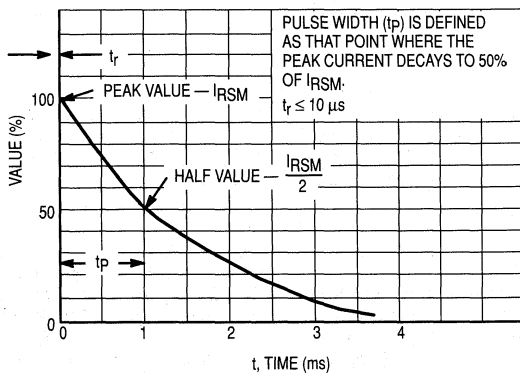
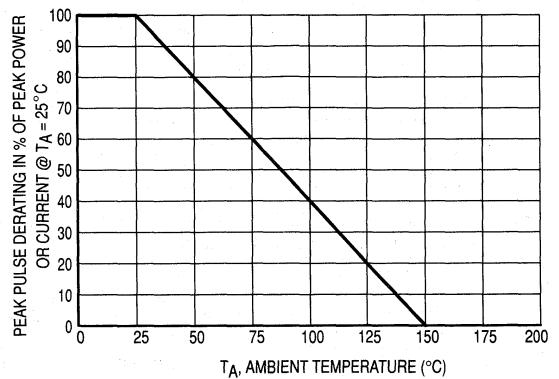

Figure 5. Pulse Waveform
Figure 6. Pulse Derating Curve
(1) Nonrepetitive current pulse per Figure 5 and derate above $T_A = 25^\circ\text{C}$ per Figure 6.
(2) FR-5 = 1.0 x 0.75 x 0.62 in.
(3) Alumina = 0.4 x 0.3 x 0.024 in., 99.5% alumina
† Surge current waveform per Figure 5 and derate per Figure 6.